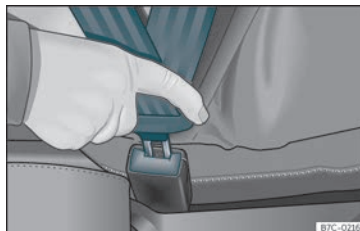

Fig. 13 Insert the latch plate of the seat belt into the buckle.
- Engage the seat backrest of the rear seat in an upright position »» **Fig. 13.**
- Pull the latch plate and place the belt webbing evenly across your chest and lap. Do **not** twist the seat belt when doing so »» **Fig. 13.**
- Engage the latch plate in the buckle of the corresponding seat»» **Fig. 13.**